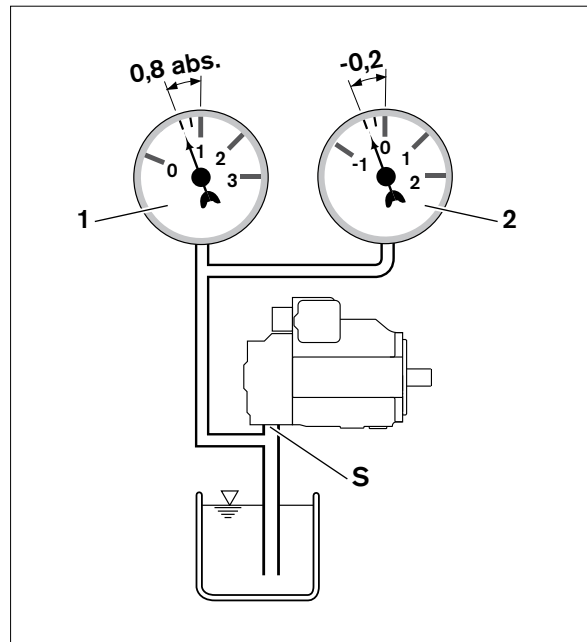

Fig. 21: Suction pressure
- ▶ Make certain that a minimum suction pressure of 0.8 bar absolute is present at port "S" during operation and on cold starts in all installation positions and installation locations for the axial piston pump, see Fig. 21. See data sheet for additional values.